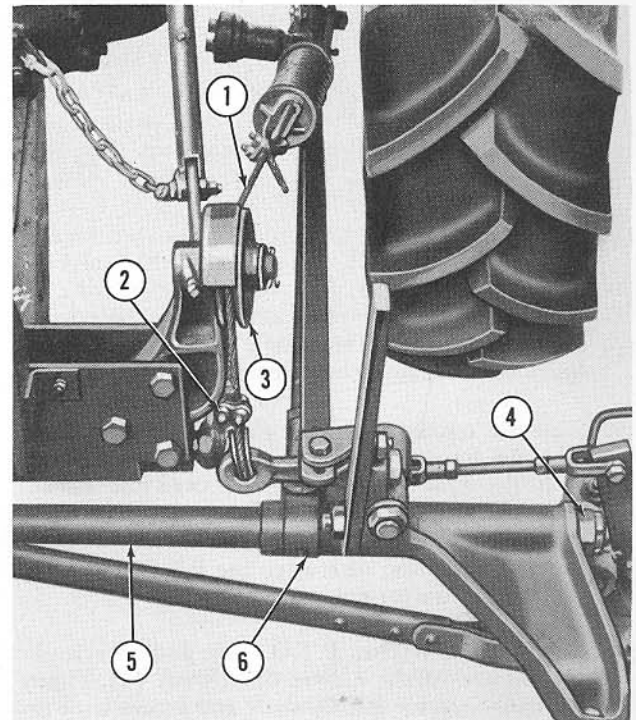

Figure 16
- b. Place the cable (1), Figure 16, over the cable sheave (3) and secure the sheave to the bracket shaft with a flatwasher and cotter pin as shown.
- c. Release the cable clamp (2), Figure 16, pull on the loose end of the cable until all slack is removed and tighten the cable clamp (2) securely, as close to the thimble as possible.